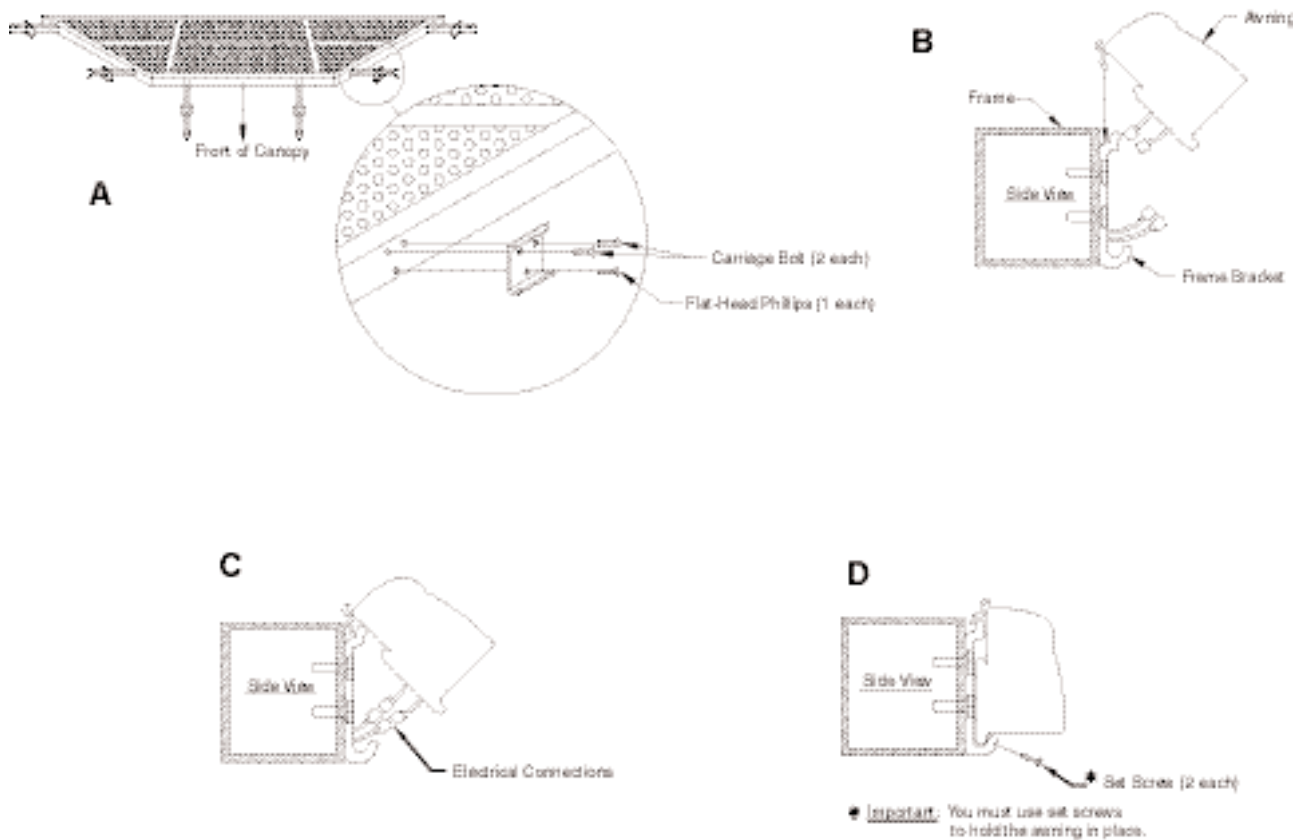

Figure 39. Awning Installation
1. Match up the 2-position wire (female) with the 2-position wire (male) and securely attach them together (**Figure 39 - Insert**). This step must be repeated for each main support post.